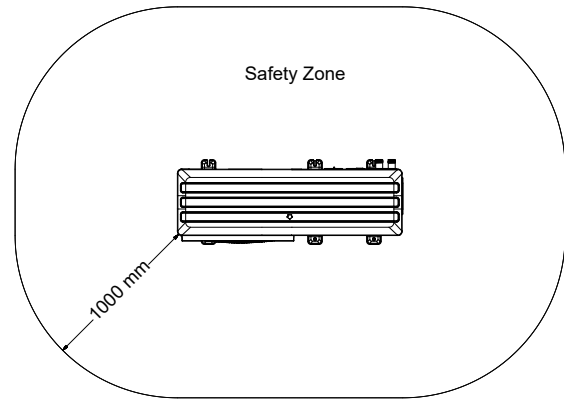

Figure 22. Freestanding installation
The protective safety zone is dependent on the installation areas and adjacent structural installations. See *Figure 22*, *Figure 23* and *Figure 24* to determine the extent of the protective safety zone.
① **IMPORTANT:** Dimensions shown in *Figure 22*, *Figure 23* and *Figure 24* below are the minimum dimensions for the extent of the protective safety zone.